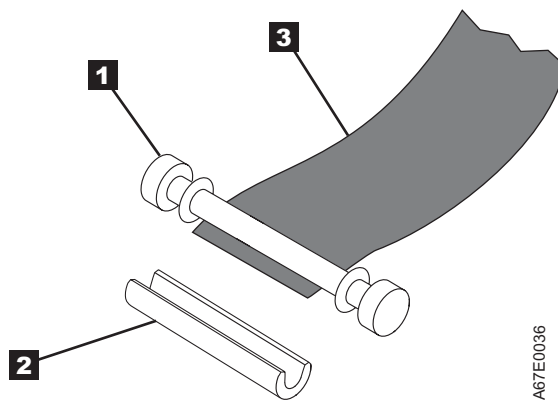

Figure 8-14. Removing the C-clip from the leader pin. Use your fingers to push the C-clip from the leader pin.
5. On the leader pin (1 in Figure 8-14), locate the open side of the C-clip (2 in Figure 8-14). The C-clip is a small black part that secures the tape (3 in Figure 8-14) to the pin.